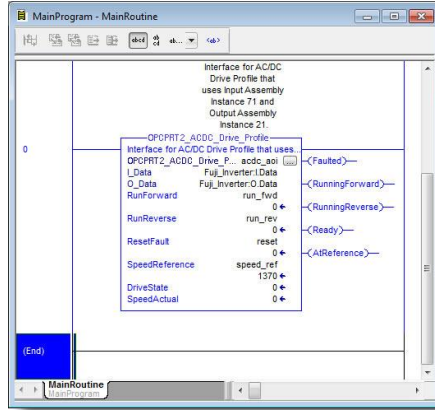

Figure 49: Configure AC/DC Drive Profile AOI
- 10) Edit the add-on instruction according to Figure 49.